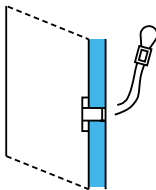

Fig. 7
- 11 Push up on the upper plastic leg of the toggle bolt and break it off flush with the wall (refer to Figure 7).